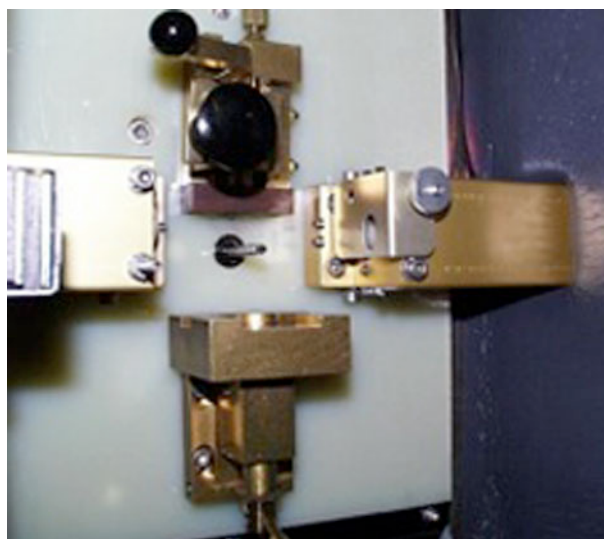

Figure 2-21, "L" Bracket Installed Covering Sulfur Optic Light Pipe
3. To activate the view to the sulfur optic, the "L" bracket must be removed from the sulfur optic light pipe. Unscrew the round knurled nut that holds the "L" bracket in place and remove it from in front of the sulfur light pipe, Figure 2-21